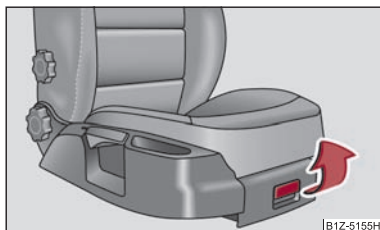

Fig. 96 Front passenger seat: Storage compartment
- Tilt the lock to open the flap and pull out the flap ⇒ fig. 96.